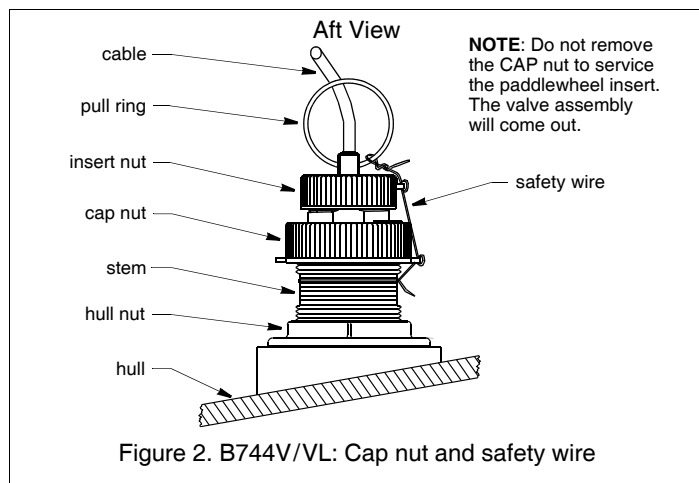

Figure 2. B744V/VL: Cap nut and safety wire
Being sure the valve assembly is seated firmly within the housing, carefully screw the CAP nut in place (see Figure 2). **Hand-tighten** only. Do not over tighten.
3. Attach the safety wire to prevent the insert from backing out in the unlikely event that the cap nut and/or insert nut fails or is screwed on incorrectly. Wrap one end of the safety wire tightly around the stem of the housing and twist it together with the long end (see Figure 2). Keeping the wire taut throughout, lead the wire straight up and through one eye in the CAP nut. Thread the wire through the eye a second time. Lead the wire in a counterclockwise direction and thread it through the eye in the INSERT nut. Thread the wire through that eye a second time. Loop the wire through the pull ring and twist the wire securely to itself.
2. Remove the paddlewheel insert from the housing by removing the safety wire from the pull ring and the INSERT nut (see Figure 2). Unscrew the INSERT nut. **Do not remove the CAP nut, as the valve assembly will come out.**
5. Reattach the safety wire (see Figure 2).
2. Remove the safety wire and unscrew the CAP nut (see Figure 2). With the blanking plug ready in one hand, *remove the paddlewheel insert and valve assembly as one unit* by grasping the pull ring and pulling upward. Rapidly replace the valve assembly with the blanking plug to minimize the flow of water into the boat. **Temporarily** secure it with the safety wire. *Do not leave the boat in the water unattended.* This is not a watertight or secure seal!
8. Reattach the safety wire (see Figure 2).